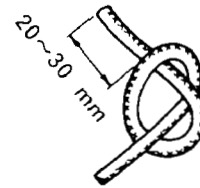

Fig. 9-4
- (1) Put the starter rope through the starter knob and tie it as shown in Fig. 9-4. (Tie the rope tightly for the safety sake.)